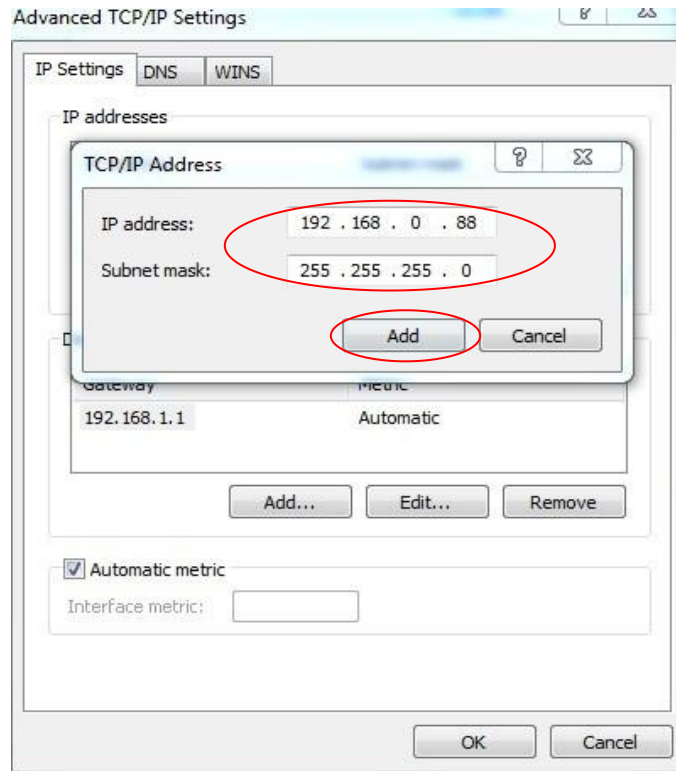

Figure 6.4
3) Add IP address: 192.168.0.88, Subnet mask: 255.255.255.0. After inputting the IP address and the Subnet mask, click “Add” to return to “Advanced TCP/IP setting” (See **Figure 6.4**)